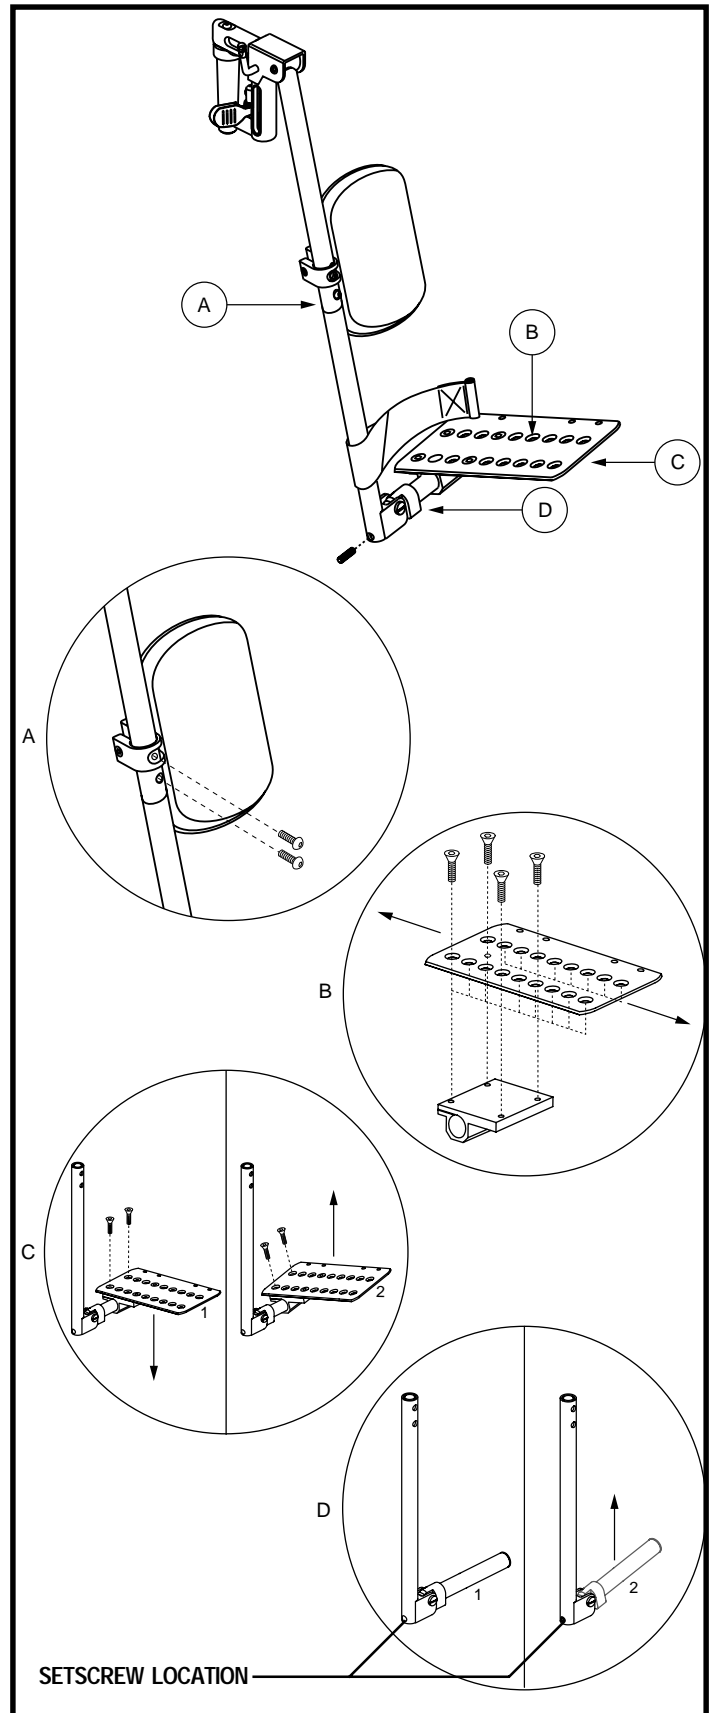

Figure 18. Multi-Axis Foot Plates
The multi-axis foot plate assembly can be installed on either a swing-away footrest or an elevating leg rest. The multi-axis foot plate has four adjustments: leg rest length (A), position (B), tilt (C) and angle (D). See figure 18.